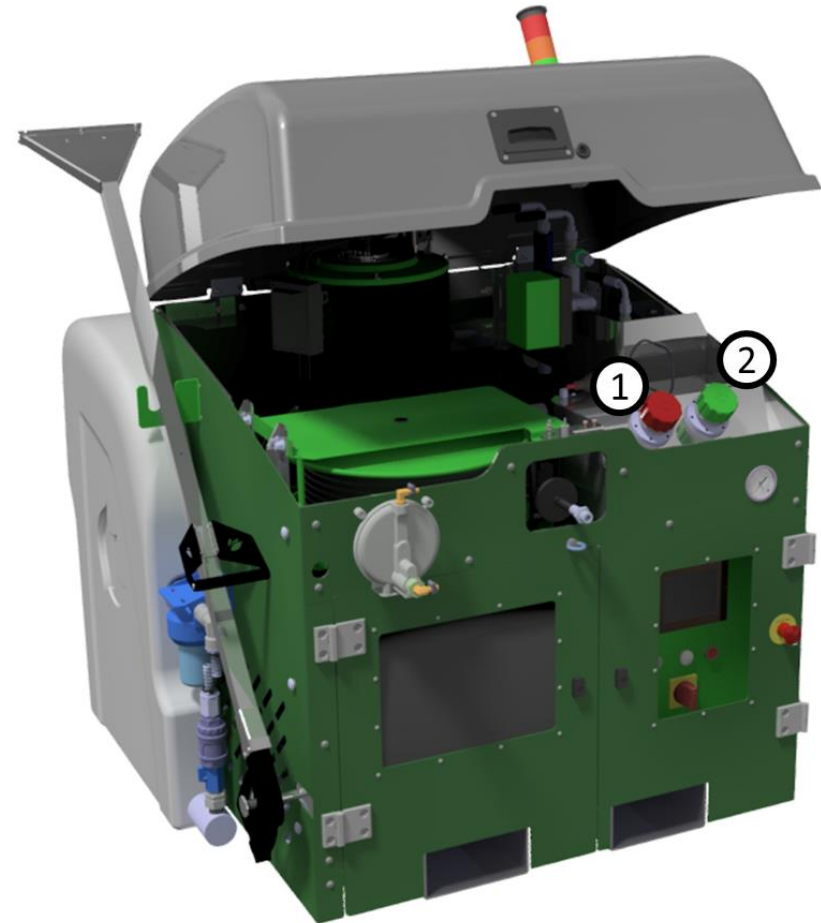

Figure 2 - View of foam and diesel filling points
- ✓ To fill diesel tank, open valve cap (RED - LEFT) (item 1 Figure 2) and carefully pour diesel until the tank is full.
- ✓ To fill foam tank, open valve cap (GREEN - RIGHT) (item 2 Figure 2) and carefully pour Foamstream® concentrate until the tank is full.